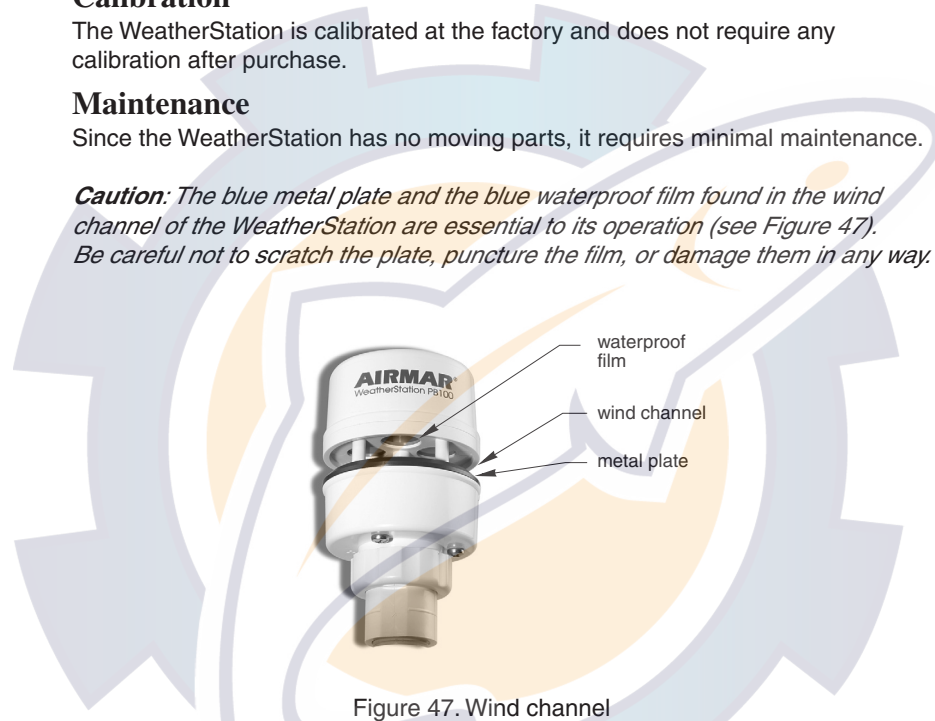

Figure 47. Wind channel
**Caution:** The blue metal plate and the blue waterproof film found in the wind channel of the WeatherStation are essential to its operation (see Figure 47). Be careful not to scratch the plate, puncture the film, or damage them in any way.